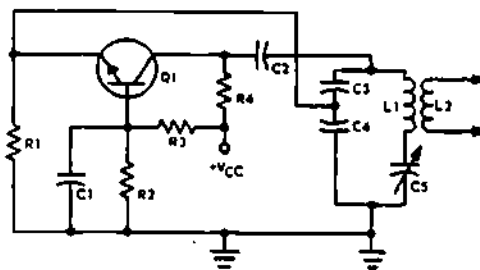

Figure 43-16
16. Refer to figure 43-16. Symptoms: No output and V_E is 0 volts. a possible trouble is
17. Refer to figure 43-16. The correct method of decreasing the frequency of this oscillator is to
19. Refer to figure 43-16. Symptoms: V_C very high with no output. A possible trouble is